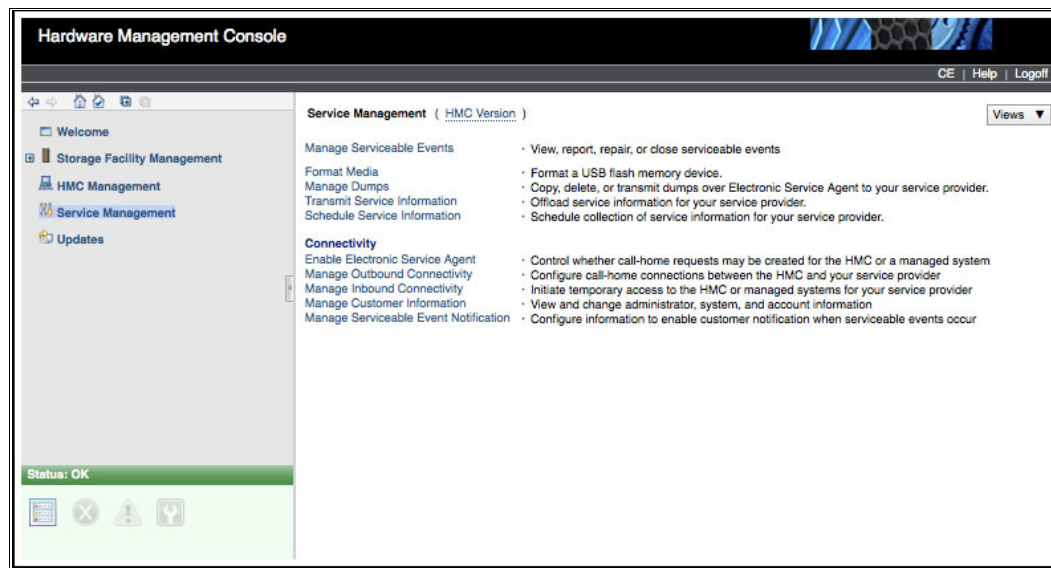

Figure 14-2 HMC Service Management
1. Log in to the Service Management section on the HMC, as shown in Figure 14-2.